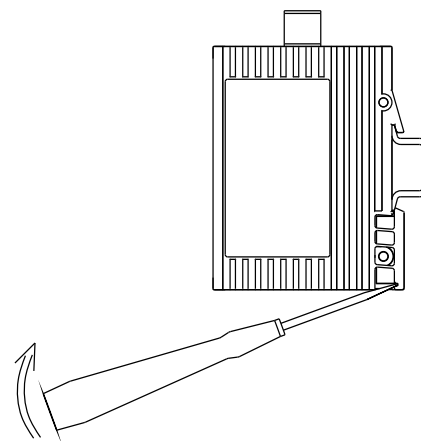

Fig. 7: Dismantling the SPIDER
- ☐ To take the SPIDER off the ISO/DIN rail, unlock the snap-in mechanism according to Fig 7.